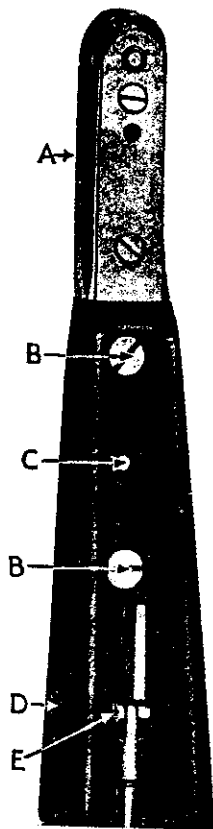

Fig. 21.
Remove the machine head from the treadle stand or power bench by taking out the four screws. The machine head should now be tipped up and supported with the horn in a vertical position, the underside facing the adjuster. Parts can be examined or removed from the rack box by taking out the two screws (F) and removing the cover plate. The following parts are then exposed : long rack (J), short rack (K), intermediate pinion (L), shuttle driving pinion (H), needle plate locating pin and spring (M), all of which can be removed without disconnecting the rack box from the machine. To take out the shuttle carrier, remove the small set screw in the shuttle carrier pinion by inserting a small screw driver through the groove (G) at the side of the rack box. The shuttle carrier can then be pressed through the pinion. To remove the long rack, insert a screw driver through the hole (D, Fig. 21) and take out the screw. Before proceeding to withdraw the rack, remove the pinion (L), then grip the rack and draw it in a straight-away manner towards the pulley end of the machine. The short rack (K) and shuttle driving pinion (H) can be removed without difficulty. When replacing any one or re-assembling the whole of these parts, care must be taken to see that the gears and racks are correctly enmeshed, as shown in the illustration (Fig. 20).
### Instructions for the Removal of the Rack Box (See Fig. 21)